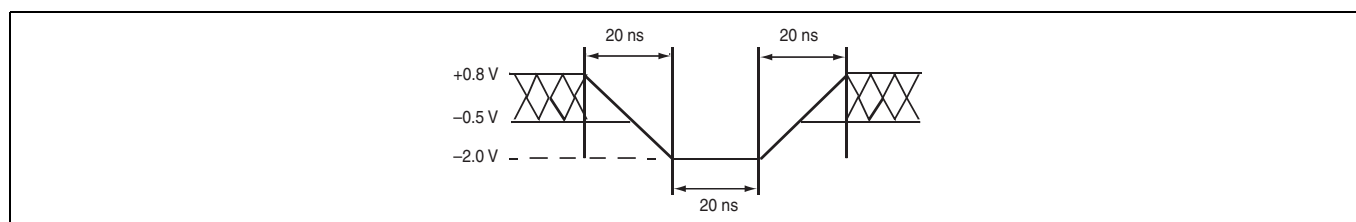

Figure 6-1 Maximum Negative Overshoot Waveform
1. Minimum DC voltage on input or I/O pins is –0.5V. During voltage transitions, input at I/O pins may overshoot V_{SS} to –2.0V for periods of up to 20 ns. See Figure 6-1. Maximum DC voltage on output and I/O pins is 3.6V. During voltage transitions output pins may overshoot to $V_{CC} + 2.0V$ for periods up to 20 ns.